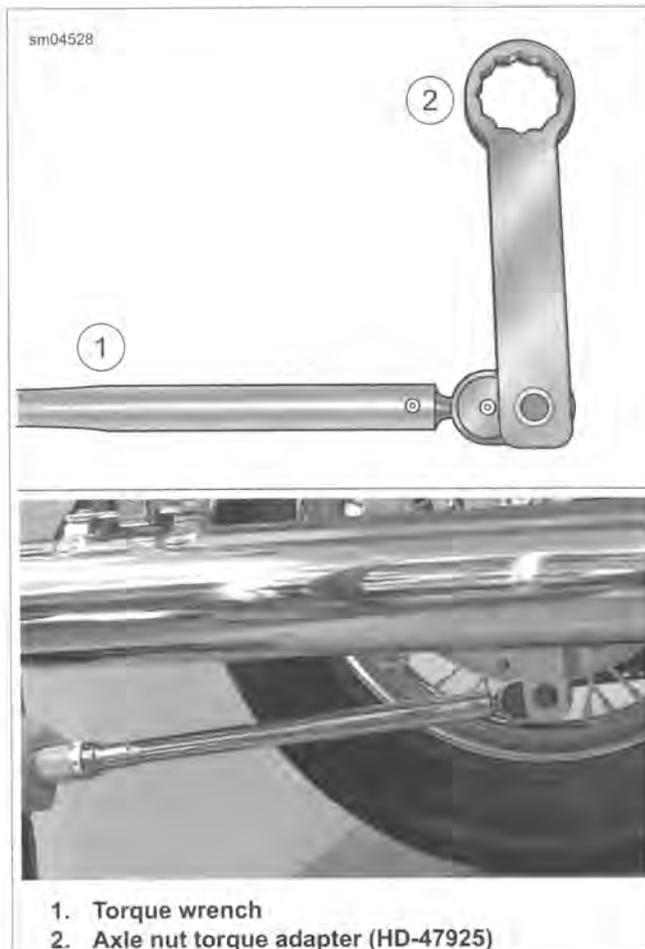

Figure 2-7. Install Tool Perpendicular to Torque Wrench
11. See Figure 2-7. Hold weld nut on left side and loosen cone nut using AXLE NUT TORQUE ADAPTER (Part No. HD-47925).